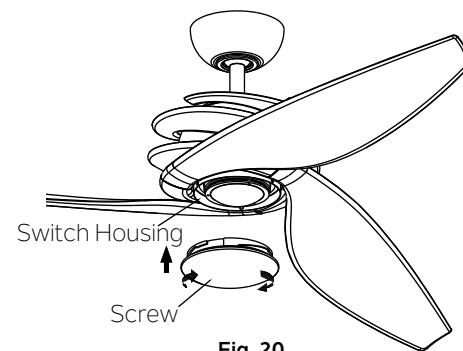

Fig. 20
**Step 1.** Secure the glass shade to switch housing by twisting in a clockwise direction. Do not over-tighten. (Fig. 20)